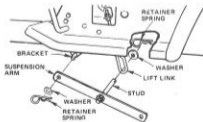

FIGURE 37
4. Slide Studs through Lift Links on both sides of Tractor (Fig. 37). Retain with Washers and Retainer Springs.
5. Place the Suspension Arms on Brackets on both sides of Frame (Fig. 37). Retain with Washers and Retainer Springs.